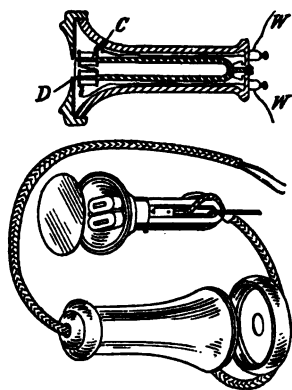

FIG. 266. — Bell telephone receiver.
**309. Telephone receiver.** In 1876 Alexander Graham Bell astonished the world by showing that the sound of the human voice could be transmitted by electricity. The essential part of his apparatus was what we still use and know as the *Bell receiver*. The hard rubber case contains a steel U-shaped magnet, which has around each pole a coil of many turns of very fine wire (Fig. 266). A disk of thin sheet iron is so supported that its center does not quite touch the ends of